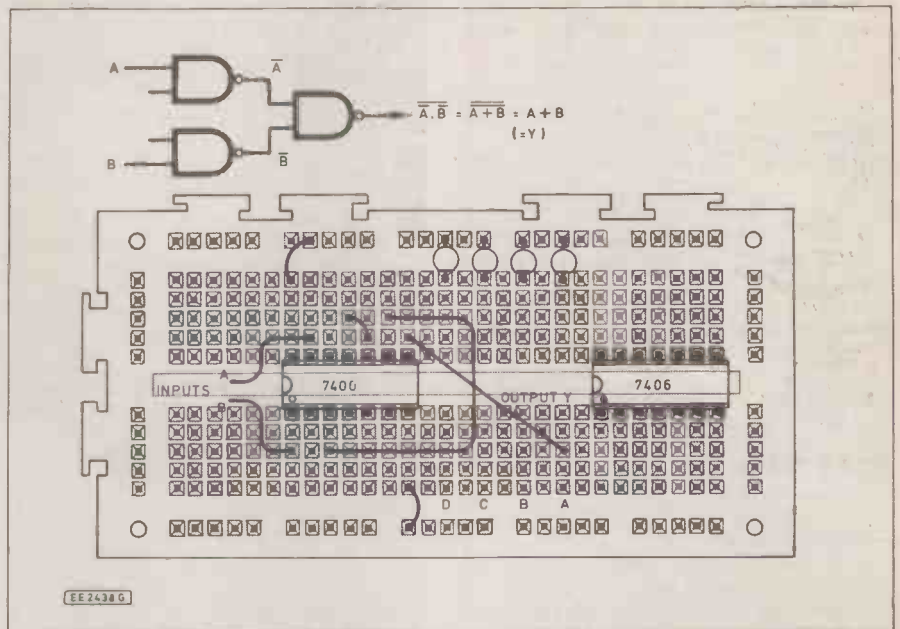

Fig.4.10. NAND equivalent of OR gate.
**T** By all means. We need one, don't we? Here it is (Fig.4.10). We'll add a wiring diagram for our chip, as before. What do you think we should do now?